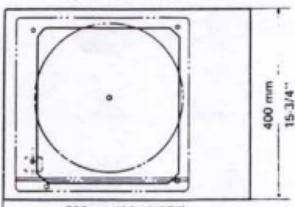

Fig. 6
**Note:** Use durable and stable insulators (legs). Fig. 6 shows an example of cabinet construction.